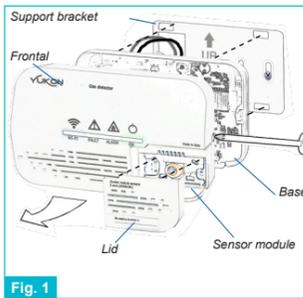

Fig. 1
- Insert the hooks on the **Base** into the holes on the **Support bracket** and pull to the right until it snaps into place (Fig. 1).